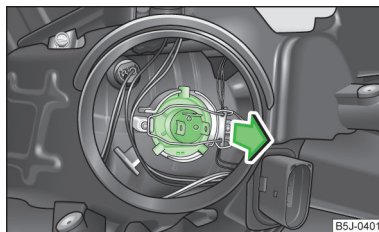

Fig. 162 Removing bulbs for low and main beam
- Remove the connector from the bulb, unlock the securing clip and remove the bulb in the direction of the arrow » Fig. 162.